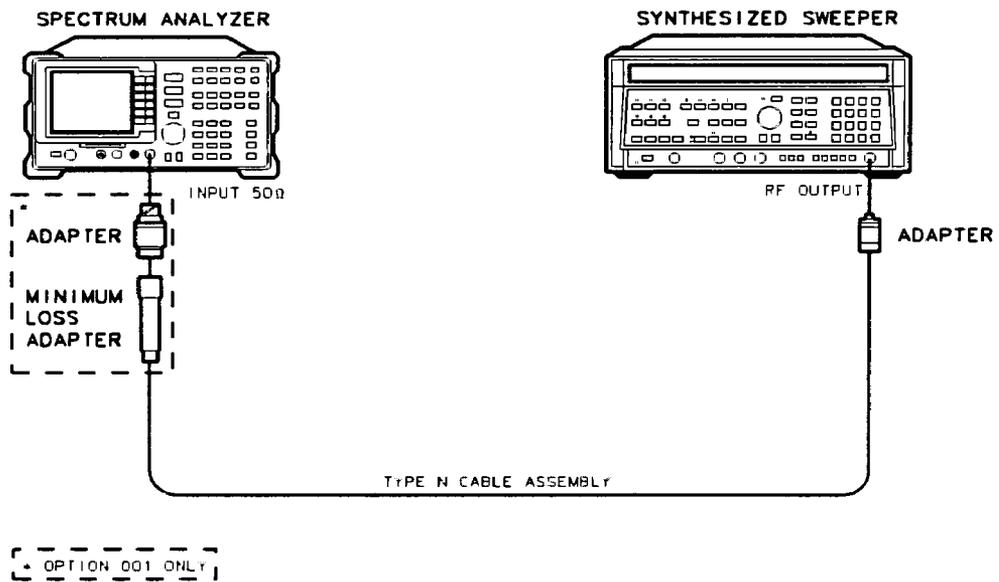

Figure 3-2. Frequency Readout Accuracy Test Setup
1. Connect the equipment as shown in Figure 3-2.